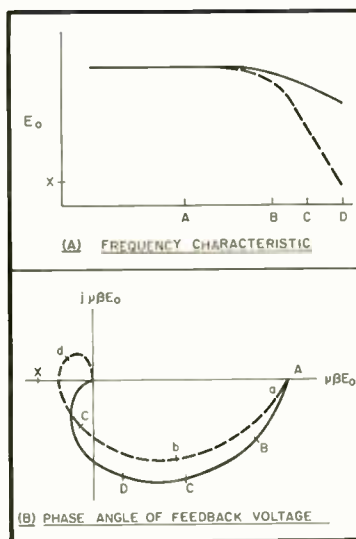

Fig. 1. Amplitude and phase of the feedback voltage.
The effects of phase shift in a feedback amplifier may best be understood by reference to Fig. 1 (A), which shows the normal gain-frequency curve of an amplifier. Points A, B, C, and D marked along the curve are transposed to the phase diagram of the feedback voltage Fig. 1(B). Point X represents the phase and magnitude of the input signal. Two conditions are shown on Fig. 1 which represent a possible high-frequency cut-off condition. These result in the corresponding curves of (B). It is seen that